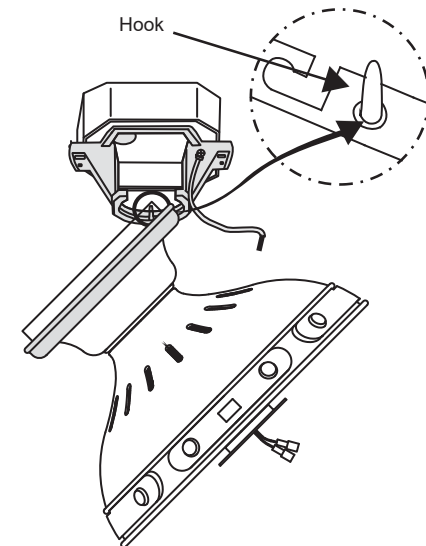

Fig. 10
Step 3. Hang the fan on the ceiling mounting bracket by inserting the hook on the inside edge of the ceiling mounting bracket through one of the screw holes in the ceiling canopy. (Fig. 10) This will allow you to have both hands free to make the wiring connections.